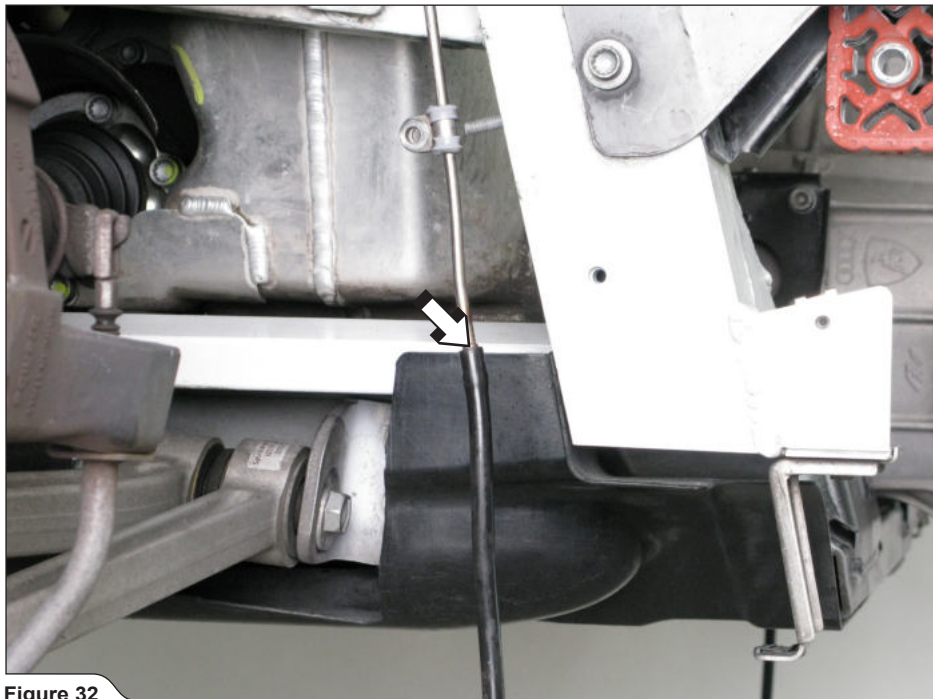

Figure 32
23. Remove the original vacuum rubber tubes off the metal vacuum tubes on both sides of the vehicle (**Figure 32**).